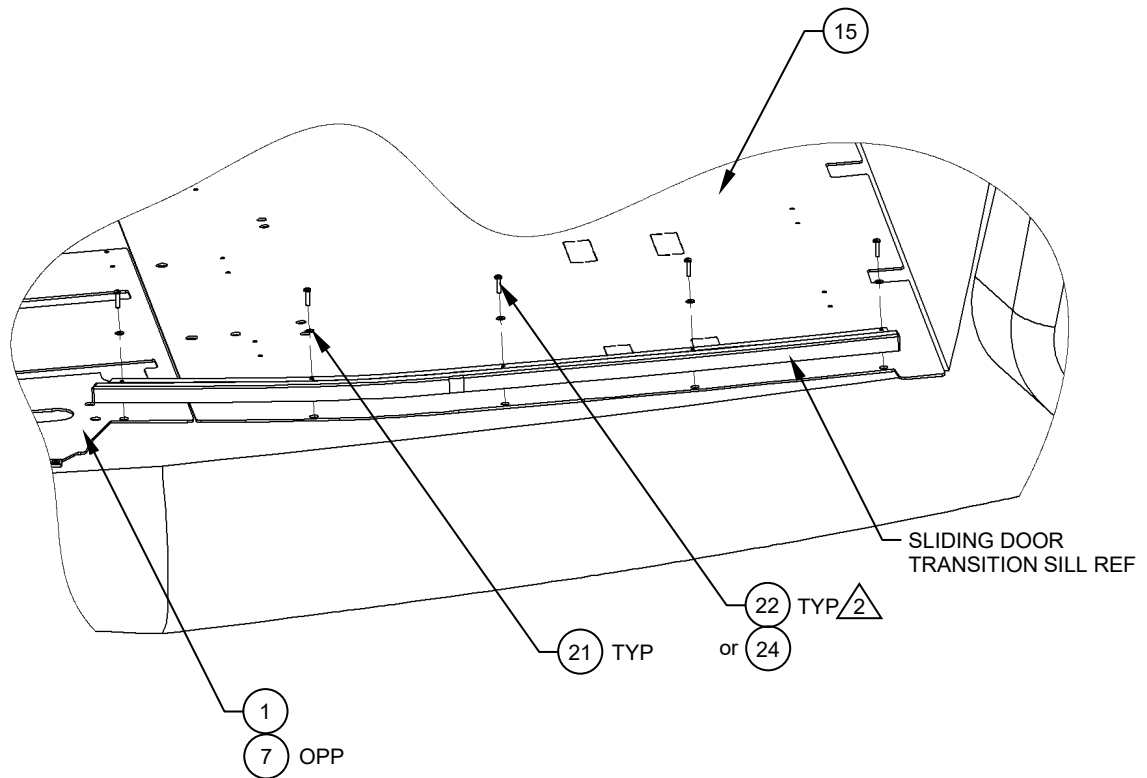

Figure 6
11. Re-install the sliding door transition sill over top of the AFT Sliding Door Floor Protection, Assy (Item 15) & FWD LHS Hinged Door Floor Protection, Assy (Item 1) and fasten with provided hardware, Pan Head Philips Machine, Screw (Item 22) & Washer, Flat (Item 21). Reference Figure 6.